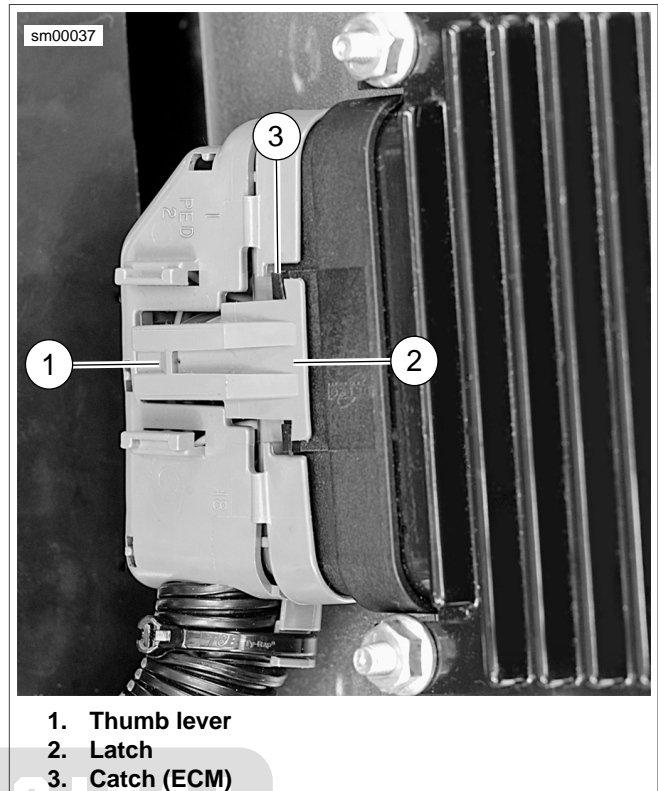

Figure A-44. Packard 100W to ECM (Typical)
See Figure A-44. While pressing the connector into the ECM, press the thumb lever (1) against the connector until the latch (2) pops out of the catch (3) on the ECM.